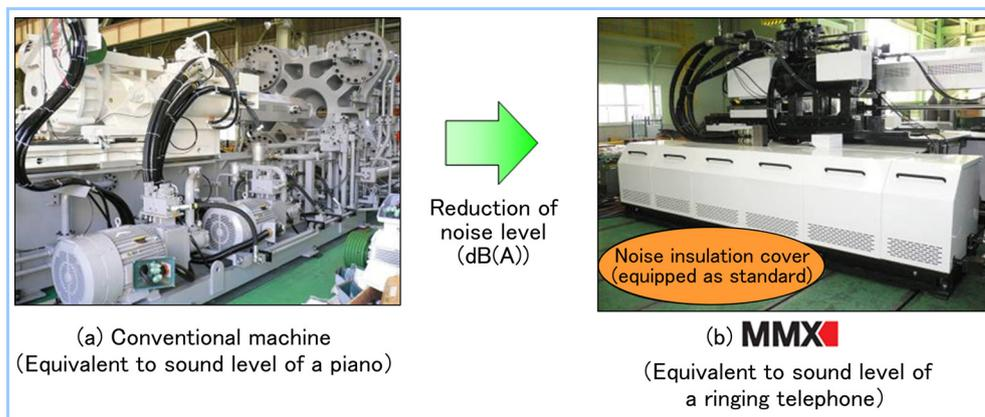

Figure 4 Noise insulation cover
- (iii) Both the clamping unit and the injection unit have their own oil tank, and a modular structure including the hydraulic oil piping is established. This makes the hydraulic oil piping layout simpler and installation/maintenance easier. (**Figure 4**)